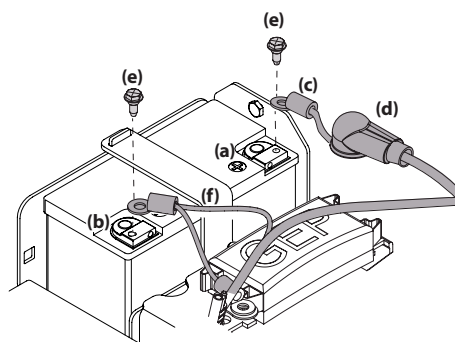

Figure 2-22
- b. Remove the red boot (d) from the positive battery terminal (a) and attach the red cable (c), with the vertical mount bolt (e). See Figure 2-22.
- b. Attach the black cable (f), to the negative battery terminal (b) with the vertical mount bolt (e). See Figure 2-22.